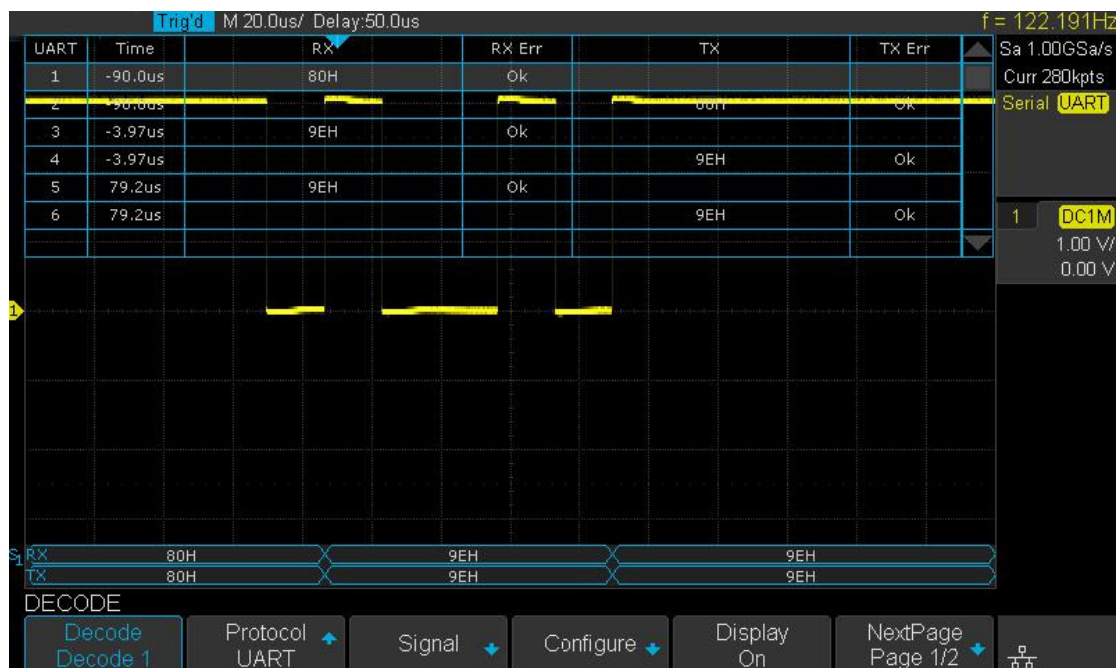

Figure 58 UART Decode
4. Press **Signal** softkey to enter the **SIGNAL** menu as Figure 58 shows.